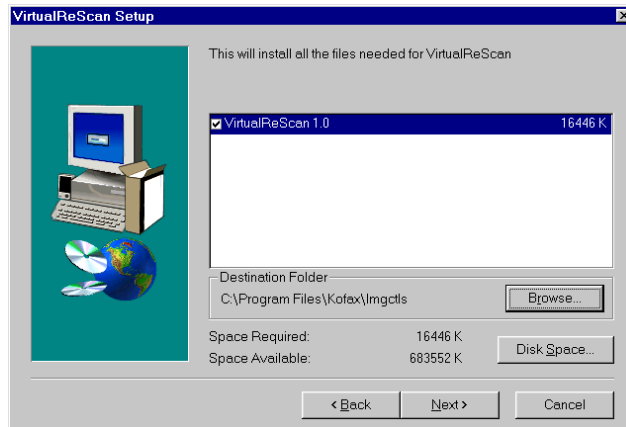

Figure 3. VirtualReScan Setup Dialog Box 2
- 4 Click Next to open the next VirtualReScan Setup dialog box, similar to Figure 3. Verify that VirtualReScan is selected, along with the correct installation folder. The default folder is C:\Program Files\Kofax\Imgctls. If desired, use the Browse button to select another installation folder.